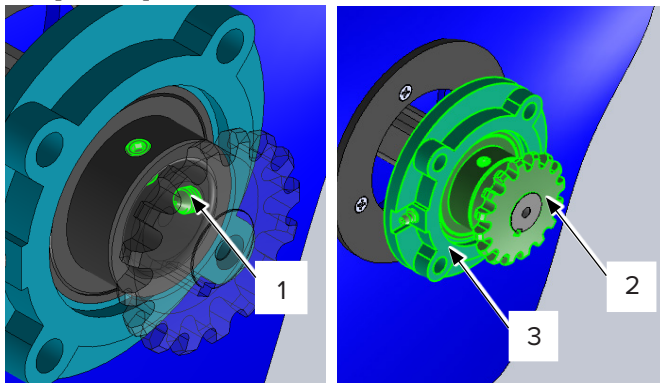

Figure 10
11. Loosen the set screws [Figure 10, Item 1], and remove the sprocket [Item 2] and the bearing [Item 3].